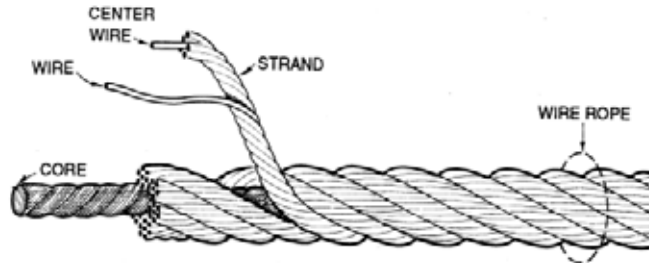

Figure 3. Wire Rope Construction
2. Wire Rope Construction consists of a number of wires grouped in strands and then a number of strands are wrapped around a core. Figure 3.